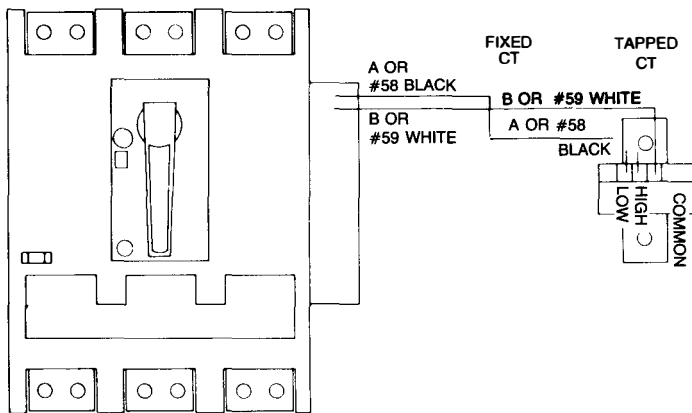

Figure 15. Neutral CT connection for 4 wire ground fault
4. Programmers providing the ground fault function must also have the tap setting changed on the tapped neutral CT (4 wire systems). Change the black wire lead from the HIGH (LOW) terminal to match the desired tap setting of the breaker frame. (Fig. 15).